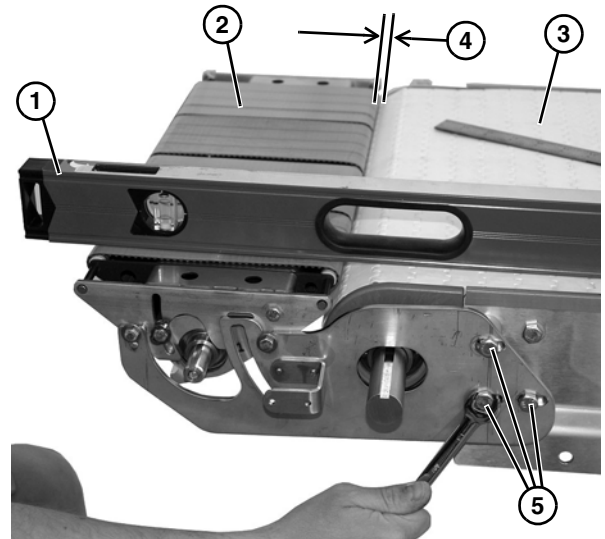

Figure 43
- To adjust location, place level (Figure 43, item 1) or straight edge to level power transfer assembly (Figure 43, item 2) with conveyor belt (Figure 43, item 3). Be certain that there is a minimum 1/8 - 1/4 in. distance (Figure 43, item 4) between power transfer and conveyor belt, and tighten three bolts (Figure 43, item 5) to secure position.